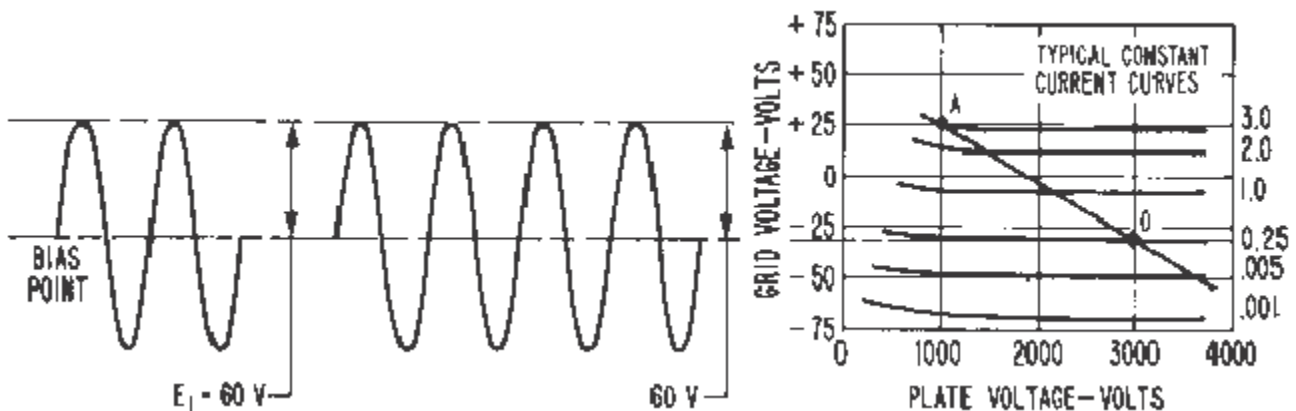

Figure 1. Single-tone condition.
1. The amplifier is set up for a **Single-Tone Signal** and a Point "A" on the operating line is established below (**Figure 1**). A definite PEP output is developed under this condition.